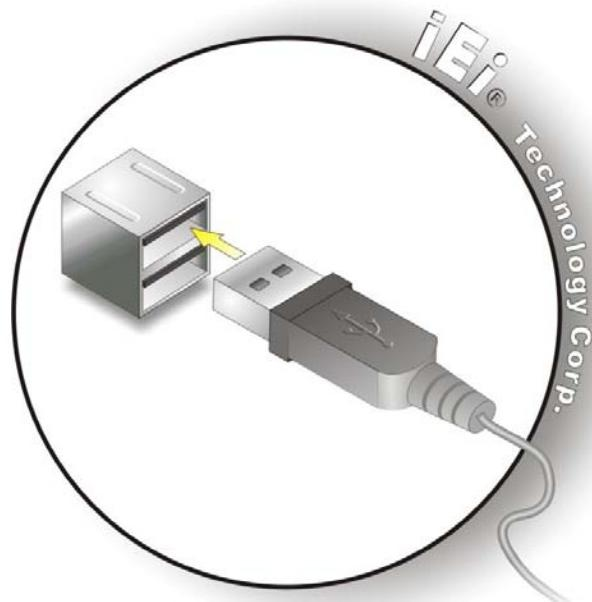

Figure 3-39: USB Device Connection
Step 2: Align the connectors. Align the USB device connector with one of the connectors on the bottom panel. See **Figure 3-39**.